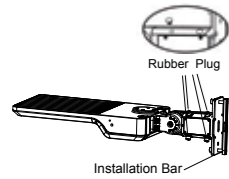

Figure 16
- Step 3: Connect the fixture to the bracket and tighten the screws; connect the wires properly and put them into junction box. (Figure 16)
- Notice: Adjustable angle is 0-90° (Figure 16)
- Step 1: Remove the four bolts from A&D bracket, remove the four rubber from installation bar, put the four rubber plugs on the place where the four bolts were previously placed on the bracket for waterproof purpose (Figure 16)